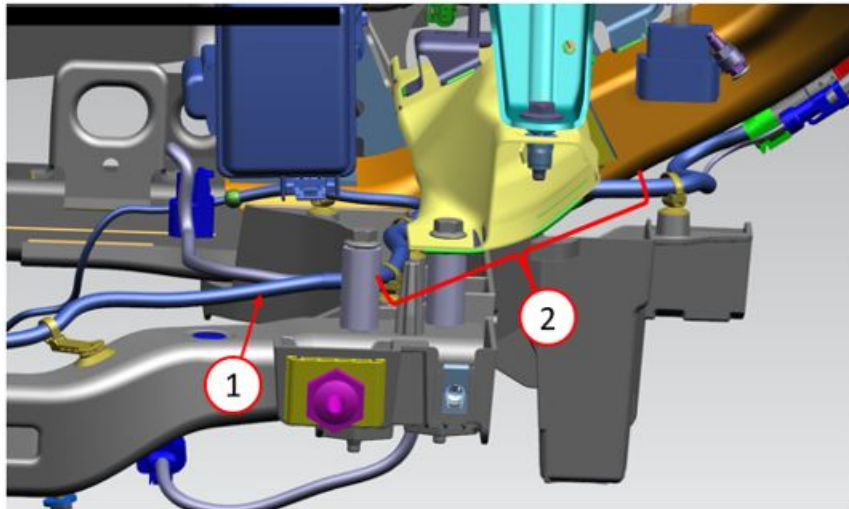

Fig. 4
8. Add tie strap to hold jumper harness to main harness and run the jumper harness behind the radiator support (Fig. 4) .